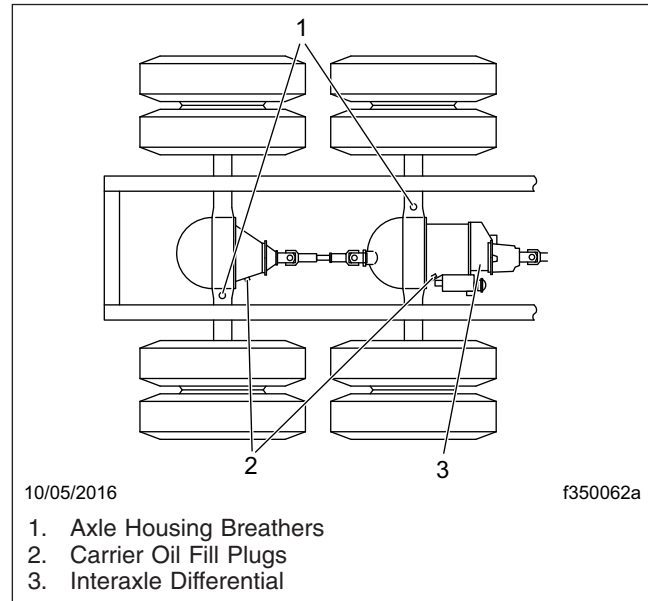

Fig. 2, Fill Hole Plug and Axle Housing Breather Locations
1. Clean the oil fill hole plug located in the carrier or the side of the axle housing and the area surrounding it. See Fig. 2. Remove the plug.
The axle housing breather must remain clean. See Fig. 2. When the axle lubricant level is checked, check that the axle breather is open. Check more often under poor operating conditions. If the breather is plugged, clean it or replace it as needed.